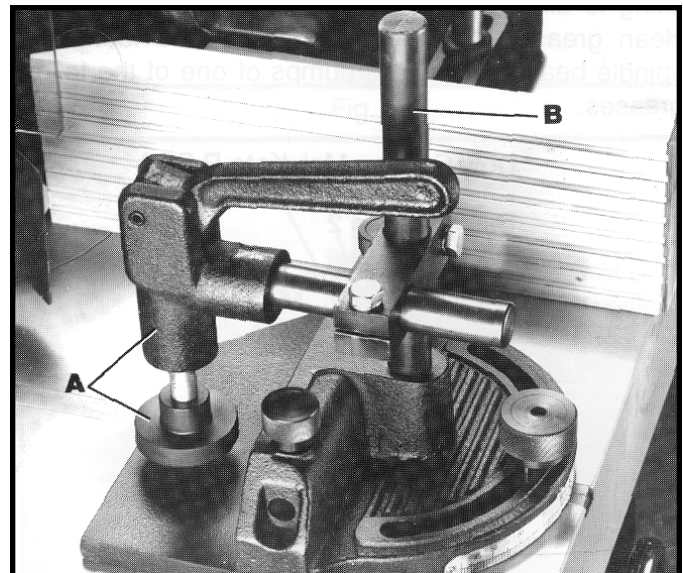

Fig. 51
A clamp (A) Fig. 51, is supplied with your miter gage to securely hold workpieces when shaping small pieces across the grain. The clamp (A) can be moved up or down as required on post (B).